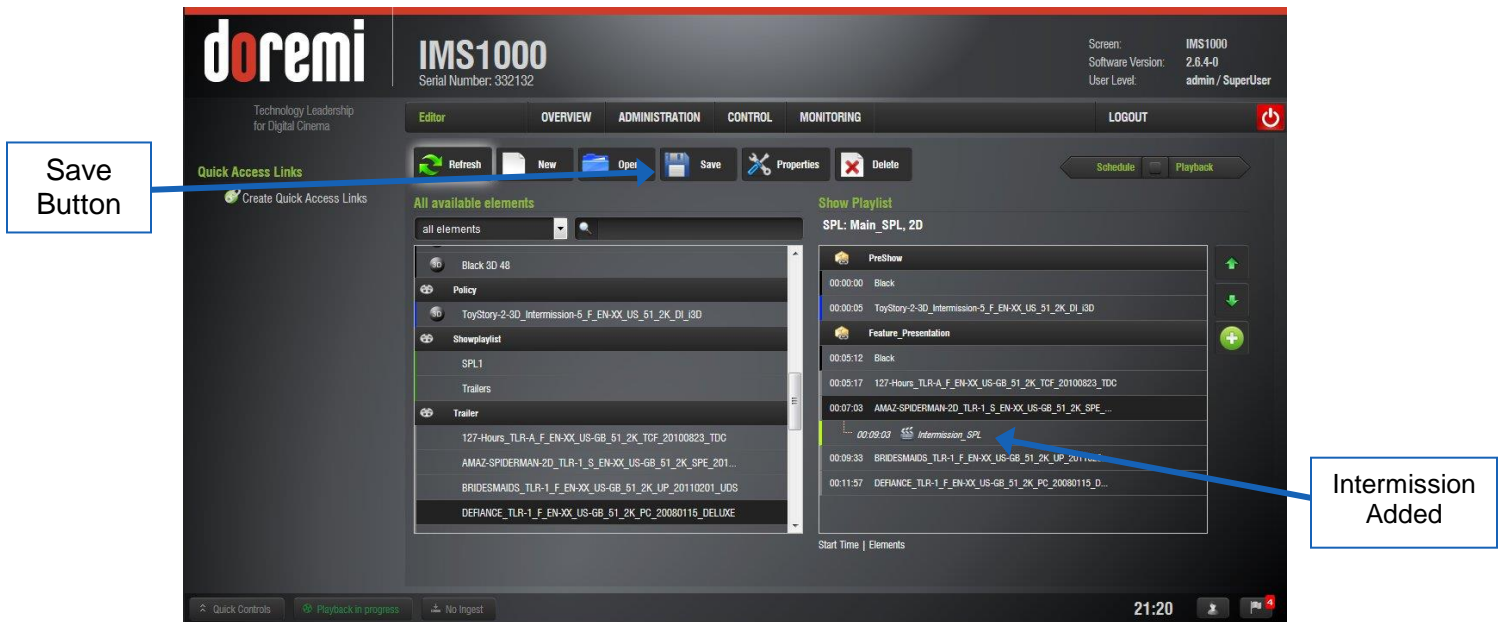

Figure 256: Intermission SPL Added
- The Intermission SPL has now been added (Figure 256).
- Click the Save button and name the SPL, if necessary (Figure 256).